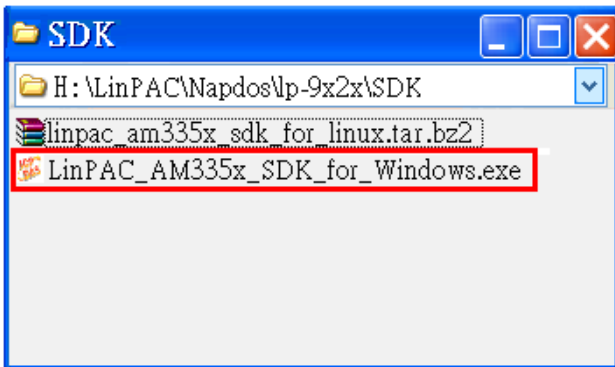
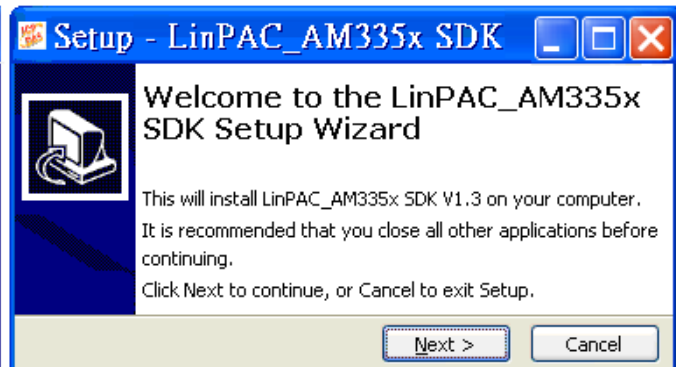

Fig. 3-7
Fig. 3-8
2. Open the \napdos\LP-9x21\SDK\ folder and double-click the icon for the “LinPAC\_AM335x SDK for Windows.exe” file, when the Setup Wizard is displayed, click the “Next>” button to continue, refer to Fig. 3-7 and Fig.3-8.